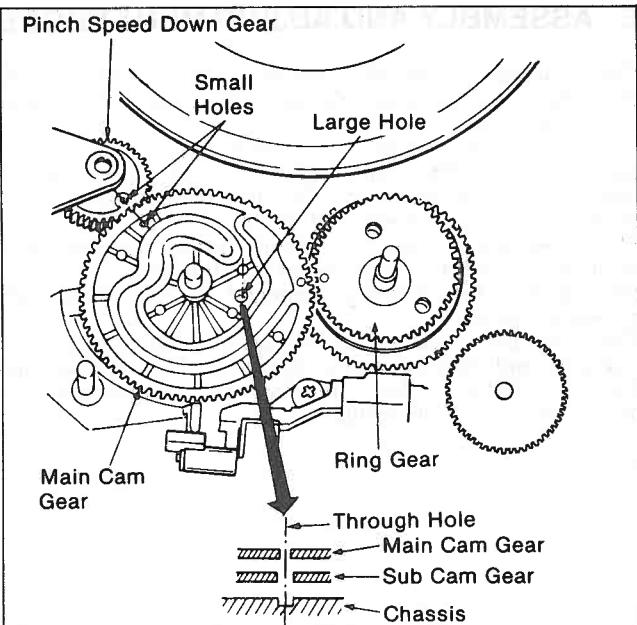

Figure M45
1. Install the Main Cam Gear onto the Sub Cam Gear so that the large hole on the Main Cam Gear aligns with large hole on the Sub Cam Gear and chassis as shown in Figure M45.
2. Install the Pinch Speed Down Gear from top side of chassis so that the outer hole on the Main Cam Gear aligns with small hole on the Pinch Speed Down Gear as shown in Figure M45.